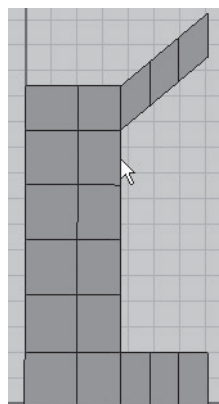

FIGURE 3.65 Bottom face of the sack's side extruded.
37. In Front view, extrude the face approximately three units to create the sack's foot, as shown in Figure 3.65.